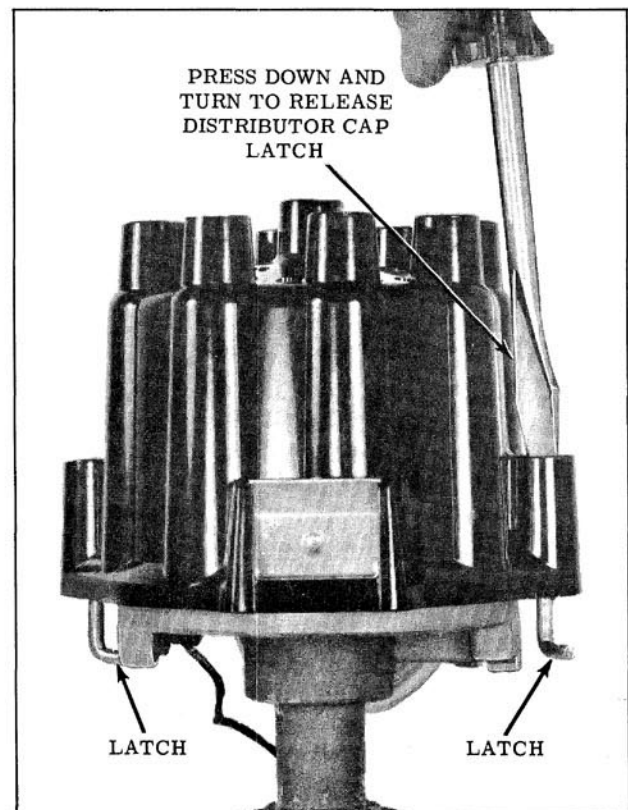

Fig. 13-65 Removing Distributor Cap
2. Remove distributor cap as shown in Fig. 13-65.